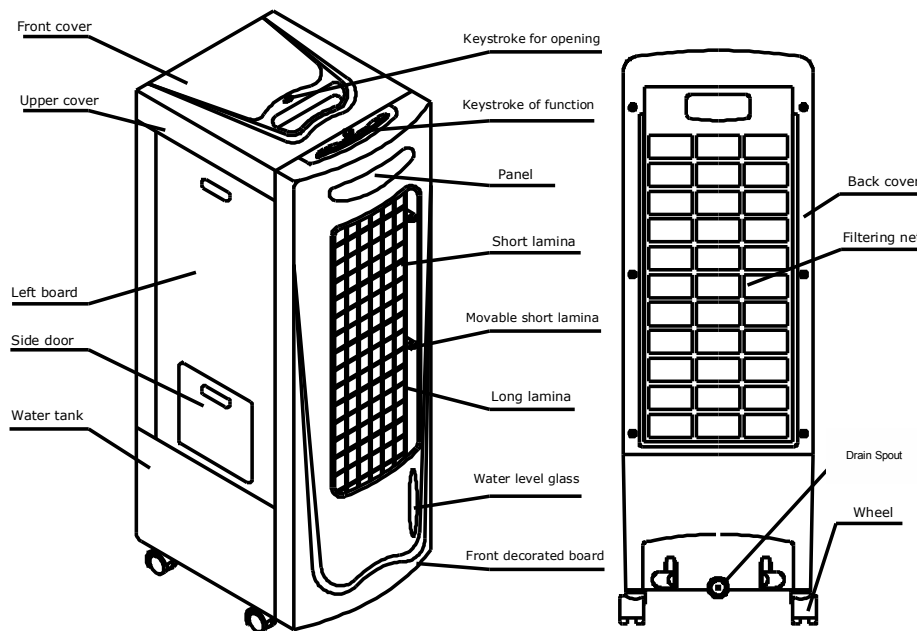

Fig2
2. Construction diagram. (Fig. 2)